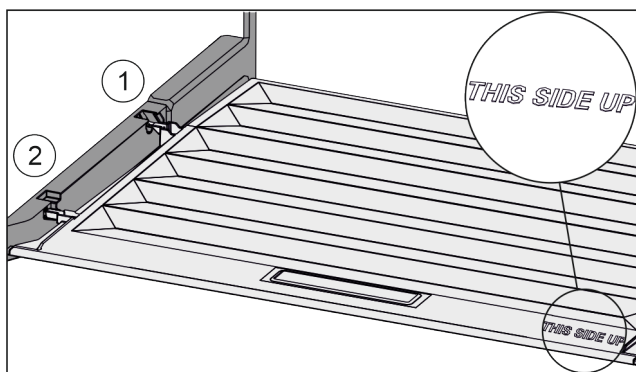

Fig. 44
- ▶ Insert the lip of the cover over the opening of the rear bracket Fig. 44 (1) and click into place Fig. 44 (2).